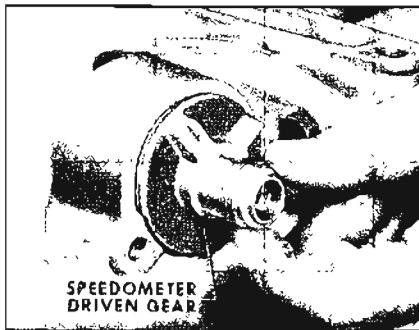

Figure 5-134
2. Remove speedometer driven gear sleeve. See Figure 5-134.